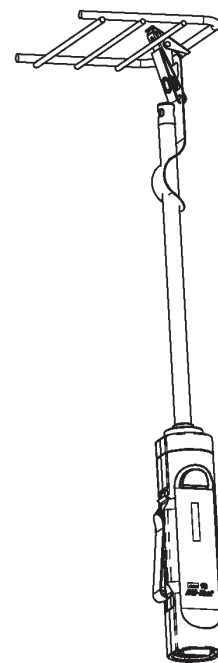

Fig. 33: Probe Clip Hanger used on a wire shelf
- Walk-in freezer/cooler measurements require that the probe be placed in or around the product racks and not near the door. Do not let the probe tip touch the rack. The probe will require more time to stabilize due to the larger differential between room temperature and freezer/cooler temperature. Keep the probe in place for 15 to 20 minutes or until the reading stabilizes. The Probe Clip Hanger makes this easier by holding the probe for you (Fig. 33).